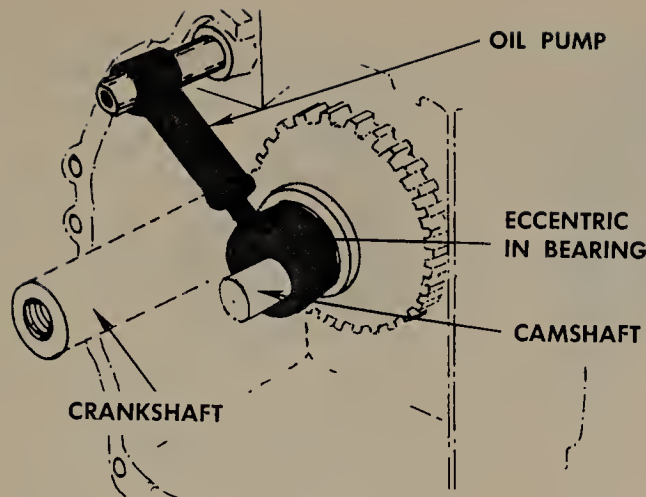

FIGURE 16.67 Oil pump driven by an eccentric on the camshaft. (Tecumseh Products Company.)
16.19 Camshaft Service. In addition to having a pair of cams to operate the valves, camshafts may also have an eccentric to operate the oil pump, as shown in Fig. 16.67. The action of this pump is shown in Figs. 6.4 to 6.6. Some camshafts also include an automatic compression release device which is discussed in Sec. 4.8. See Fig. 4.12. In addition, some earlier Kohler models had the ignition breaker-point cam on the camshaft mounted through a centrifugal advance mechanism. This provided an ignition retard during cranking so as to avoid kickback. After the engine started, the ignition would advance to the running position. Later models, using the automatic compression release, do not use this ignition advance mechanism. Also, some models have a power takeoff on the camshaft, as shown in Fig. 16.68. Some models also have a governor drive gear which drives an internal